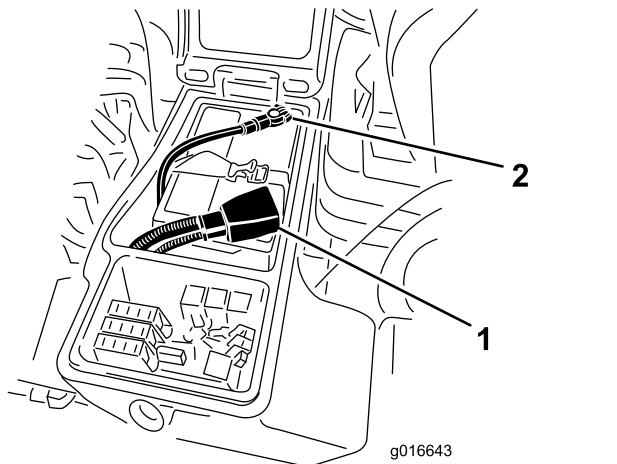

Figure 57
4. Install the positive cable (red) to the positive (+) terminal and the negative cable (black) to the negative (-) terminal of the battery (Figure 57). Secure cables to posts with capscrews and nuts. Make sure that the positive (+) terminal is all of the way onto the post and the cable is positioned snug to the battery. The cable must not contact the battery cover. Slide the rubber boot over the positive terminal to prevent a possible short from occurring.